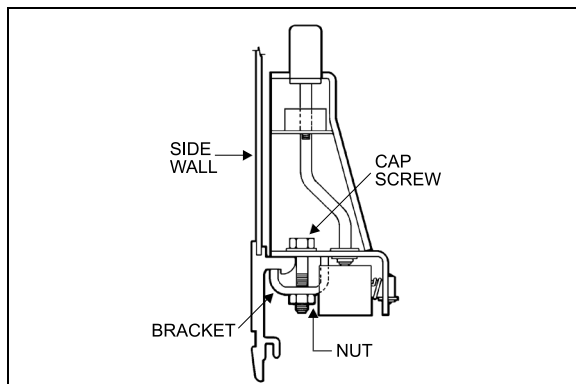

FIGURE 90: ARMREST
4. Remove 2 cap screws, nuts, and washers holding seat frame to side wall and retain the 2 holding brackets. See Figure 90.